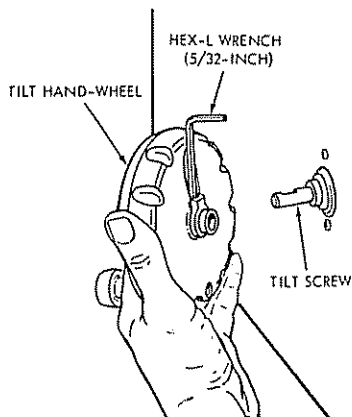

Figure 2
2. Install the tilt hand-wheel on tilt screw shaft and secure it by tightening the set screw with a 5/32-inch hex-L wrench. (See figure 2.) Be sure to tighten the set screw on the "flat" of tilt screw.